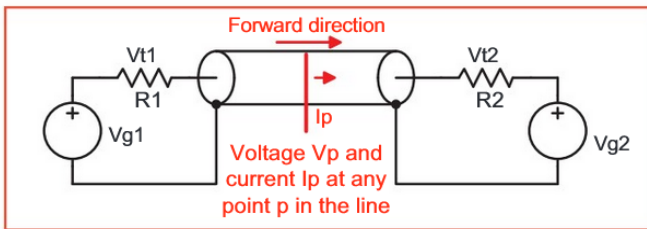
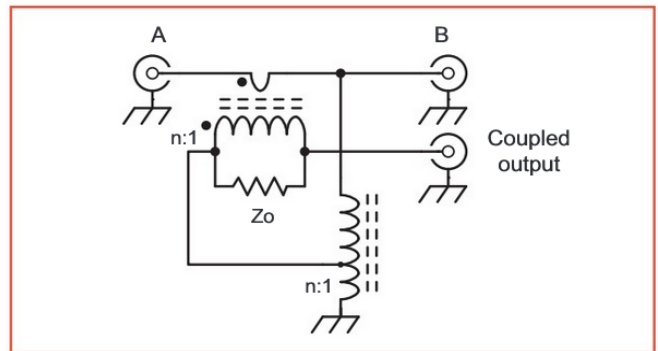

FIGURE 1: Simple situation using DC voltages.
FIGURE 4: Basic concept of the directional coupler in a VSWR meter.
Let's begin with the simple situation in which the signals are DC voltages (see **Figure 1**). If V_{g1} is equal to 2V, and V_{g2} is equal to 0V, then 1V appears across the left-hand (sending) end of the line (1 volt is dropped across the 50Ω source resistance), and when the signal arrives at the right-hand end, 1V will be across the 50Ω load resistance (assuming that there is no resistance in the line).
We could also send a signal down the line in the reverse direction from V_{g2} , exactly the opposite of what we have just done. If, with V_{g1} equal to 2V, we make V_{g2} also equal to 2V with the polarity shown in **Figure 1**, then we are sending a signal down the line from right to left while there is already a signal on the line from left to right.
in the relative polarity shown in **Figure 1** then the voltages will oppose from each other. Clearly, no current will flow. Now this might seem a bit confusing at first sight; it fits with the superposition principle, but there is no power flowing in either direction in the circuit. What happened to the original left to right signal on the line that was being dissipated in the right hand load? The answer is that, although the superposition principle means that voltage and current signals caused by each of the voltage sources are independent of each other, the addition of a new source, V_{g2} in this case, causes the effective value of the load resistance connected across the right-hand end of the line (the ratio of voltage to current) to change, even though the actual resistor value has not changed. This analysis provides a bit of insight into what happens with a mis-termination at the load end of a feeder. When we switched on V_{g2} , we can explain what happened in two ways. We can say that we have sent a signal back down the line towards the sending end of the same magnitude as the original incident signal. We could alternatively say that, in effect, we have changed the resistance at the load end from 50Ω to infinity (the load has 2 volts across it and no current flows). Because the load is infinite, there is no power dissipated in it.
Since the current and voltage in a resistor are proportional to each other it is possible to measure instantaneous values, scale them for R and subtract one from the other such that the result is zero. This is the basic principle on which directional couplers work. In Figure 1, at a particular point on the line P , V_p is the sum of V_f and V_r , while $I_p = I_f - I_r$. What we want is V_f and V_r in isolation. It is a trivial matter to obtain a voltage proportional to a signal of interest in a circuit (V), the tricky bit is to balance out the contribution from an unwanted signal, V_r . If we provide an output equal to $V_p - I_p \times Z_0$ we can see that the contributions from the V1 source due to its components in V_p and I_p will cancel out. However the contributions from the V2 source due to its components in V_p and I_p will add: this is a directional coupler. It enables us to measure V_f and V_r independently. The types of practical circuit for such a coupler are fairly well known; Figure 4 shows the basic idea. The directional coupler and an RF detector are the important components of a VSWR meter. We will not go into this in detail as this is a common topic in *RadCom* and
shown in references. Now remembering that we concluded that measuring impedance and referring to reflected signal (reflection coefficient) are actually an indication of the same parameter, an alternative way to look at this is to say that the device in Figure 4 is an impedance bridge that gives no coupling between port A and the coupled output when the impedance on port B is Z_0 . This means that the device can measure the signal flowing from B to A, with no contribution from the signal from A to B.